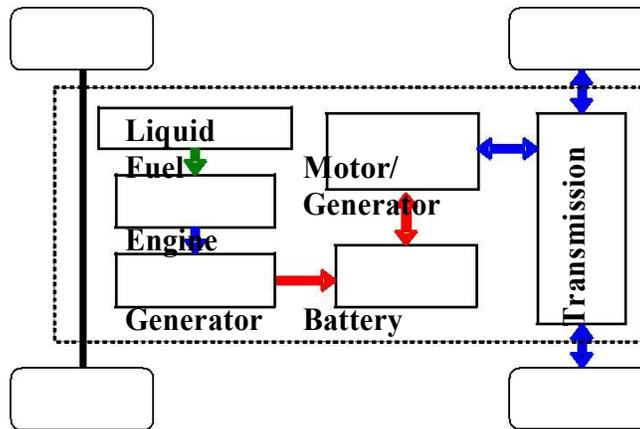

Figure 3: Schematic of a Series Hybrid powertrain
For vehicular applications, the ideal performance characteristic of a power plant is constant power output over the full speed range. Consequently, the torque varies hyperbolically with respect to speed as shown in **Figure 3**. This ideal performance characteristic of the power plant will ensure that the maximum power is available at any vehicle speed, thus resulting in optimal vehicle performance. In practice however, the torque is constrained to be constant at low speeds. This is done so as not to be over the maxima limited by the adhesion between the tyre-ground contact areas. The **internal combustion (IC)** engines are the most commonly used power plants for the land vehicles. In hybrid and electric vehicle technology, the **electric motor** is used.
- **Figure 3:** Ideal performance characteristics for a vehicle power plant
In a Series Hybrid there is a single path to power the wheels of the vehicle, but two energy sources. As shown in figure 3, the fuel tank feeds an engine which is coupled to a generator to charge the battery which provides electrical energy to a motor/generator to power the wheels through a transmission although a direct coupling can also be used. The motor/generator is also used to recharge the battery during deceleration and braking.
There are many possible EV configurations due the variations in electric propulsion and energy sources. Based on these variations, six alternatives are possible as shown in **Figure 3**. These six alternatives are